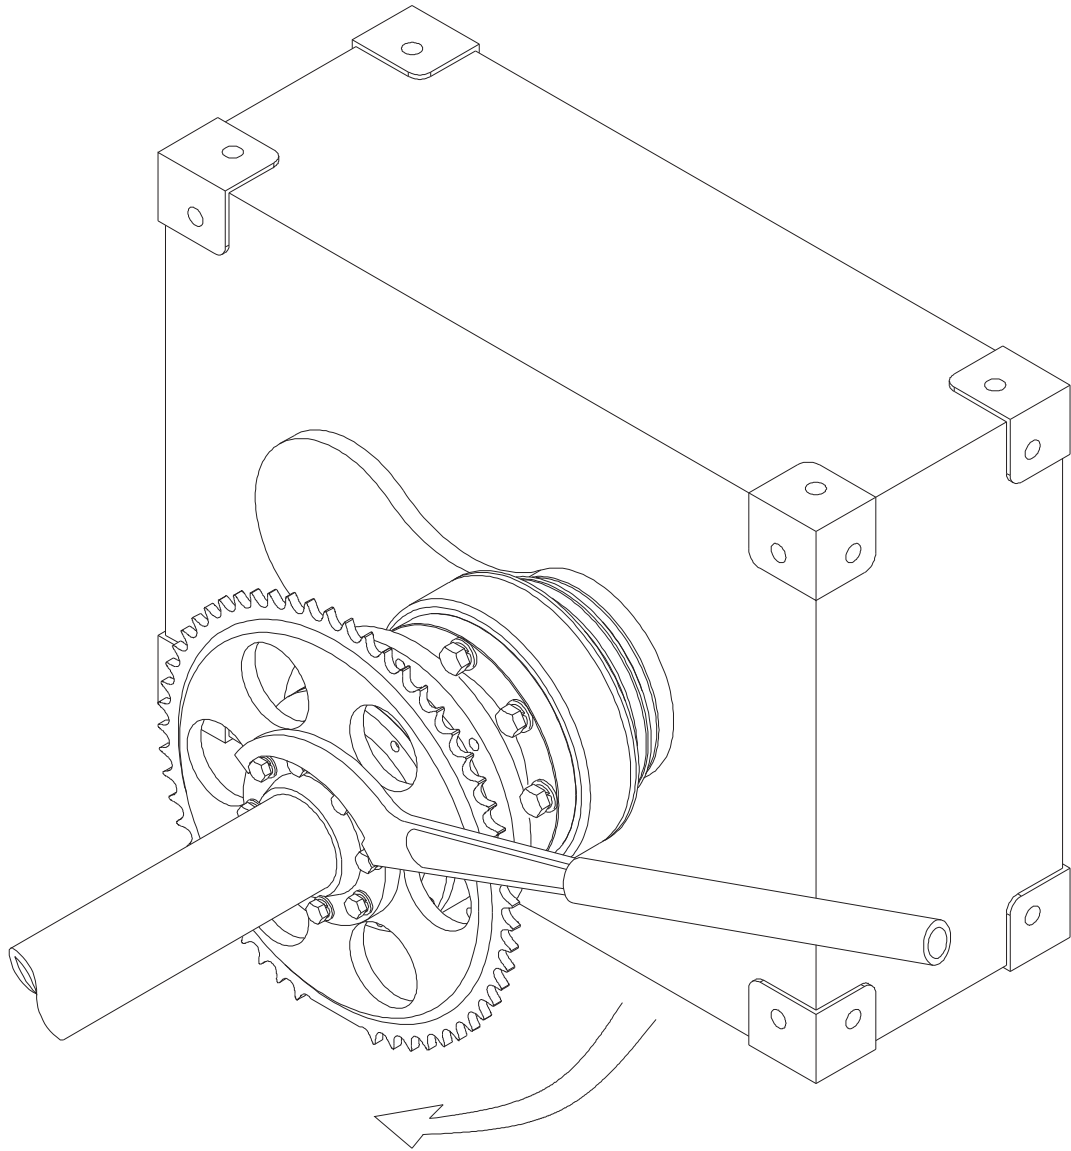

Fig. 2.1
2. Insert and push in the ratchet wrench at the end of the shaft (fig. 2.3). Turn the safety switch (39) to 1 position. Then clutch will be on. And operate the ratchet wrench. (see fig. 2.1)
- c. Turn the recouping wrench downward till the device is restored at the recouping position. At this moment a click noise shall be heard. (see fig. 2.1)